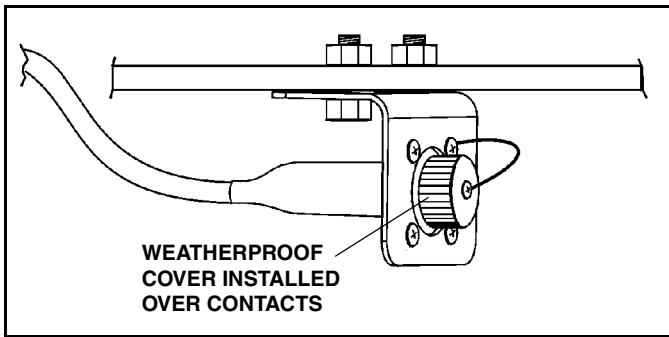

Figure 1-5
4. When operating vehicle without plow attached, install weatherproof cover onto connector to protect electrical contacts. (See Figure 1-5).